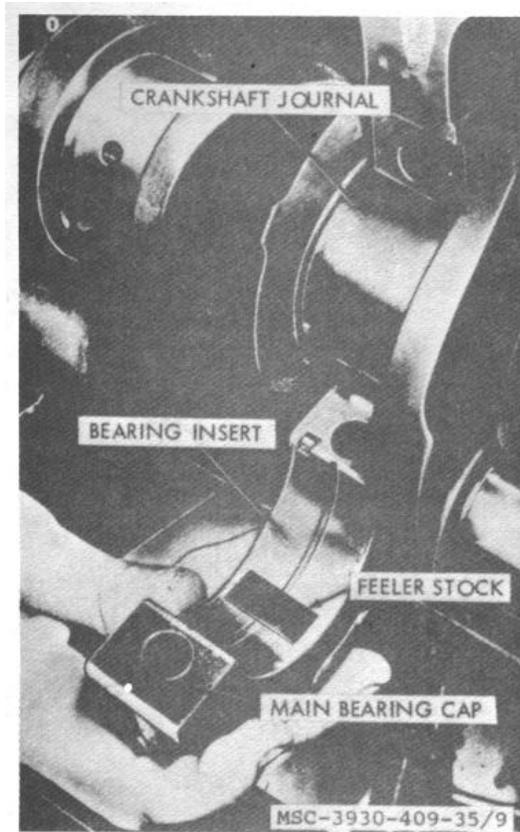

Figure 3-22. Checking main bearing clearances.
- (1) With a bearing shell in place and bearing capscrews tightened, crankshaft must be free enough to turn by hand. If crankshaft can be turned one complete revolution, clearance is at least adequate. If crankshaft cannot be turned all the way by hand, it is too tight.
- (2) Take each main bearing, one at a time, and remove cap. Use a piece of 0.002 inch feeler stock, 1/2 inch wide and 1 inch long; oil stock well and place between bearing shell and crankshaft journal as illustrated in figure 3-22. Torque bearing screws (d. above). If a drag is present, the main bearing is too loose. If bearing clearance is excessive, install undersize bearings.